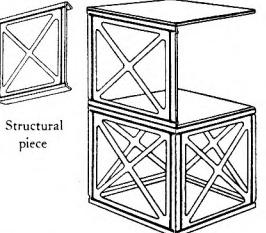

FIG.2 Parts listing, ref. 1
Ref 1 shows "structural" parts and structural sets AA and BB with those parts - see Figs.2 & 6. I have not seen any of these parts; since no method is available to connect the tops of the "structural" wall pieces, the bridges illustrated would be quite weak. Perhaps this was recognized and these sets were short-lived. Ref 1 and 2 are the same except for the parts illustration (Figs.2 & 3), and the last page (which would be 20 if it were numbered). Ref 1 has the description of sets AA and BB, while ref 2 has an illustration of the very large model (Fig.1 above). It is some 66" high and has some walls with other than 90° corners. I have built a model (much smaller, of course) based on the principle illustrated and, while providing a complete roof was awkward, it looked very nice. I have only seen one copy each of refs 1 and 2: those in my collection.
cutouts below, and three pie-shaped cutouts forming the arch above. I have not seen any examples of this variation, and am not sure it exists. The single window No. 7 is included only in the two largest sets (G and H early on, or E and F later). Again, the parts illustrations show two versions: a simple single four-paned square window centered in the wall in the early (Ref 1) manual (Fig.2), and the one with the embossed decoration and two-pane rectangular window shown in MCS (and in Refs 3-6). Ref 2 shows neither window, but then it doesn't show the No 4 windows either, but they were included in the set with that manual.